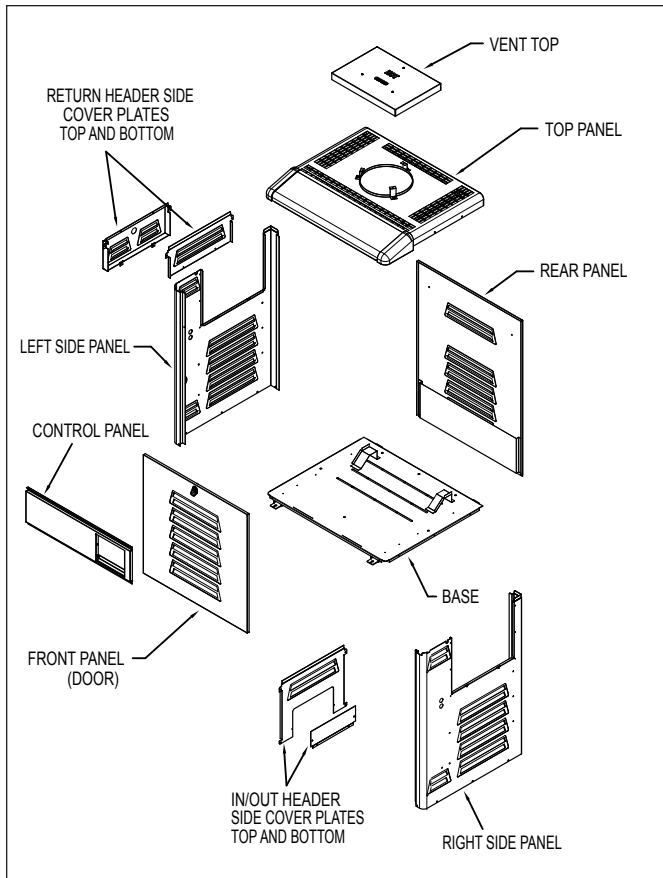

Figure 10. Legacy Model LRZ Panel Identification
3. Remove the I/O header side cover plates, top and bottom. See Figure 10.
4. Remove the return header side cover plates, top and bottom. See Figure 10.